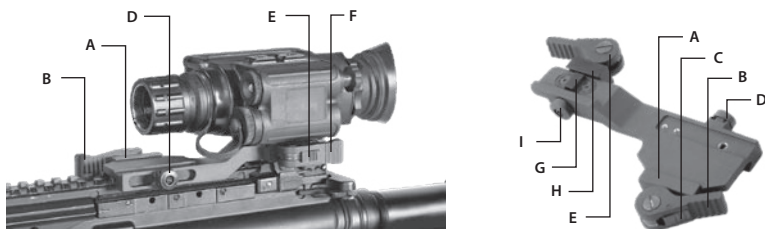

FIGURE 3-5. MOUNTING THE SPARK TO A WEAPON WITH A QUICK-RELEASE PICATINNY MOUNT ADAPTER
1. While pushing down on the lever holder (C), turn the lever (B) backwards to loosen the QRM clamping device (A).
2. Install the QRM on the weapon rail by inserting the stop (not shown in Figure 3-5) into one of transverse slots of the weapon rail.
3. To secure the QRM onto the weapon rail, turn the lever (B) forward. Secure the clamping device (A) tightly to the weapon rail. To adjust the force of the lever clamp, loosen or tighten the nut (D) as necessary:
- When the clamping device (A) unlocked, push the lever holder (C) so that the nut (D) gets out of its hollow.
- To tighten/loosen clamping device, turn the nut (D) CW/CCW, respectively, by one-two increments (the eight-sided nuts of the AIM clamping devices fit their hollows only if turned in one of the discrete positions), when the holder (C) pushed. Just as the holder (C) released, backmoving springs makes the nut (D) get back into its hollow.
4. While pushing down on the lever holder (F), turn the lever (E) forward.
5. Install the Spark on the QRM rail by inserting the stop (G) into the transverse slot of the unit rail.
6. Attach the Spark to the QRM rail by turning the lever (E) backwards. Secure the QRM clamping device (H) tightly to the Spark rail. To adjust the force of the lever clamp, loosen or tighten the nut (I) as necessary.